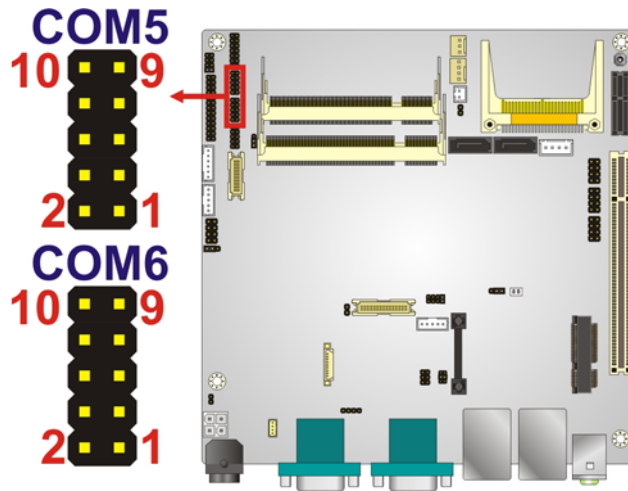

Figure 3-21: Serial Port (COM5 and COM6) Connector Pinout Locations
- CN Location:** See Figure 3-21